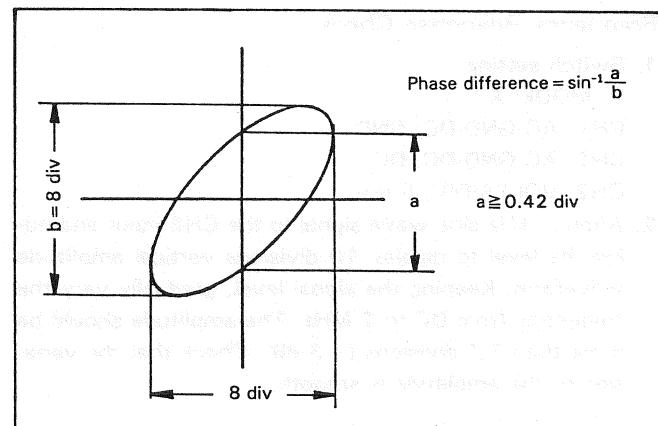

Fig. 11 Phase Difference Check
2. Apply 100 kHz sine wave signal to both CH1 and CH2 input terminals simultaneously and adjust its level to display 8 divisions both vertical and horizontal amplitude Lissajous waveform. Then, check the phase difference as shown in Fig. 11. The phase difference must be 3° or less.